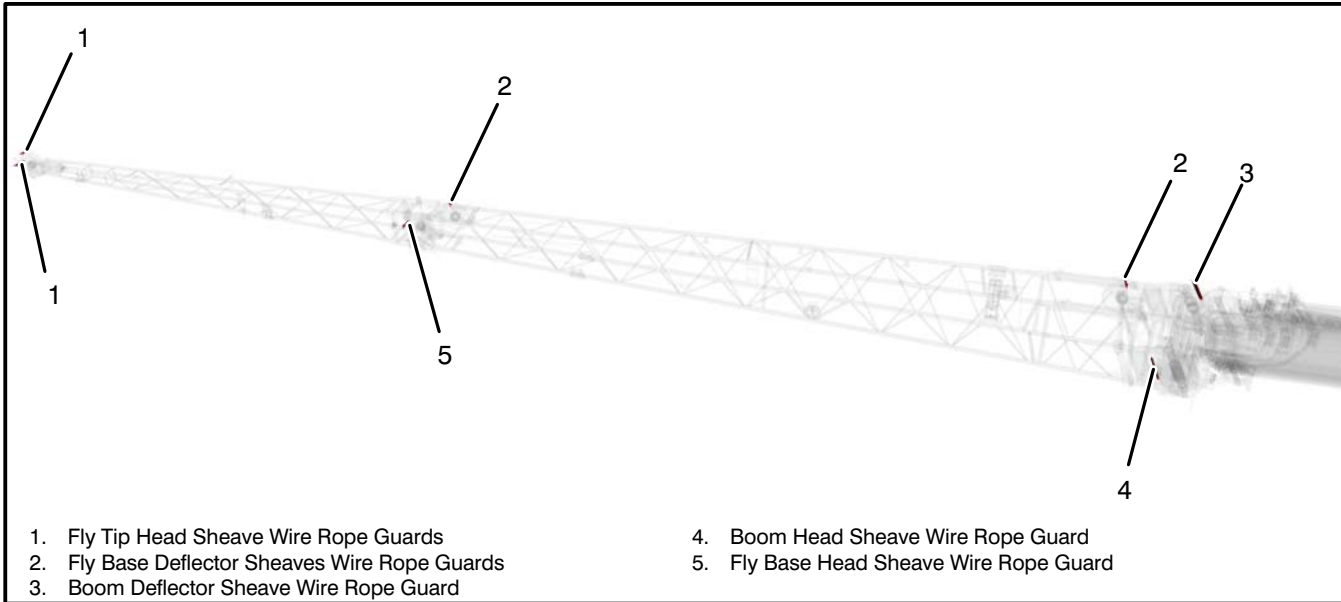

Figure 4–50
49. Secure the fly storage cylinder in the cylinder bracket with the keeper pin. Refer to Figure 4—49.
50. Pull the ramp storage pin. Rotate the pivoting ramp into the stored position until the ramp storage pin catches. Refer to Figure 4—60.
4. Fully retract the boom and position the boom within the fly configuration working range. Refer to Figure 4–8. Engage travel swing lock.